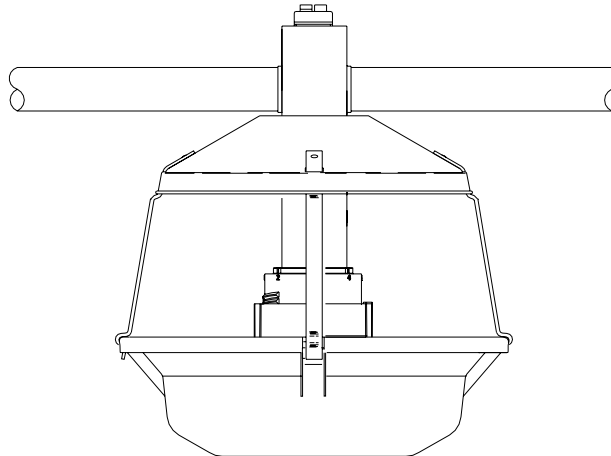

Figure 24. Install Feeders on Tubes
2. Rotate the feeder tube so the tab at the outlet hole will pass through the notch in the drop tube. Rotate the tube 180 degrees to lock the pans in place, **see figure 24**. Make sure outlet holes are down.